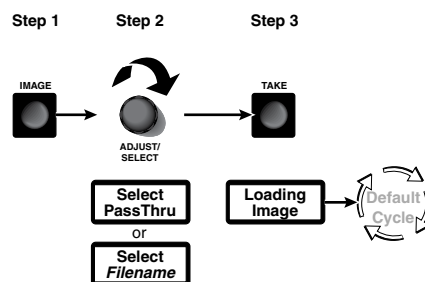

Figure 8. Selecting an Image
1. Press and release the **IMAGE** button (see figure 8).